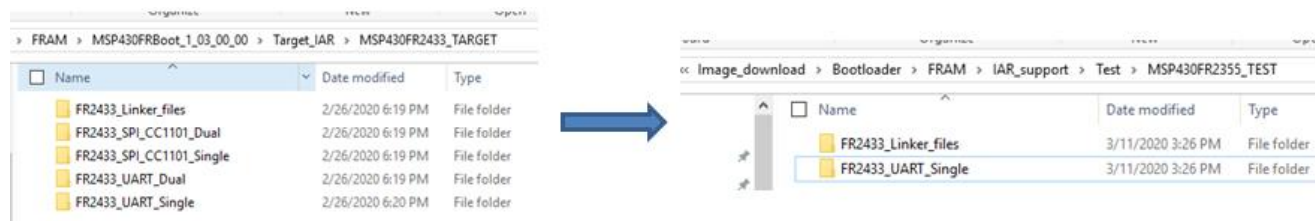

Figure 6-1. Copy UART single project and the linker folder to other folder
2. Copy the "FR2433_UART_Single" project and the linker folder named "FR2433_Linker_files" into another folder, as shown in Figure 6-1. For MSP430FR2xx4xx family devices, choose the MSP430FR2433 target demo projects as a template. For MSP430FR5xx6xx family devices, choose the MSP430FR5969 target demo projects.